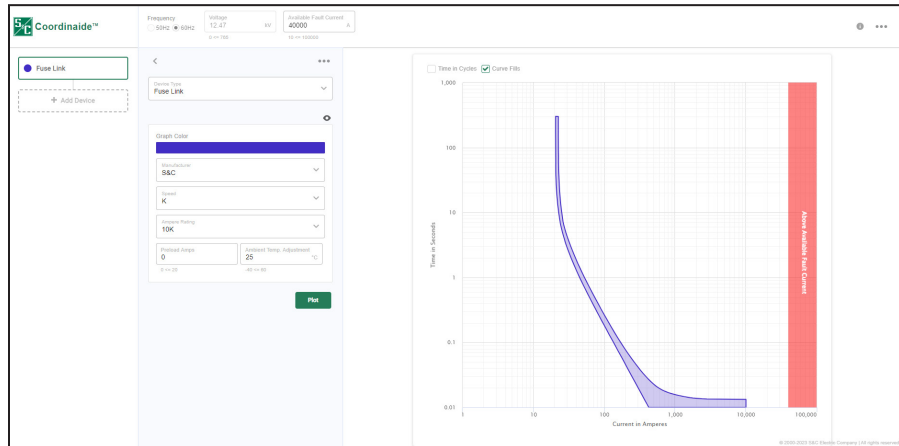

Figure 7. The TCC curve generated by the Plot button.
STEP 3. When the parameters for the protective device have been entered, click on the **Plot** button to create the TCC curve for the device. See Figure 7.